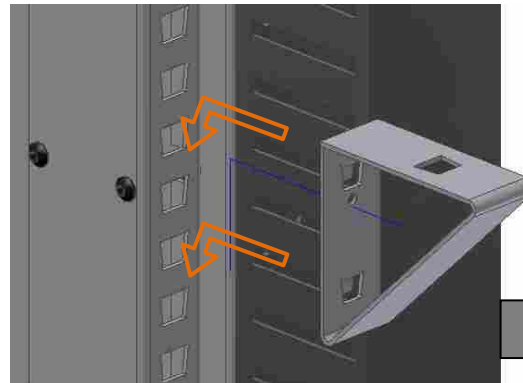

Fig 7
STEP 1 – Insert the hooks of the **kits** in the trapezoids of the **grooved bars** (Fig. 7). Use a nylon mallet.